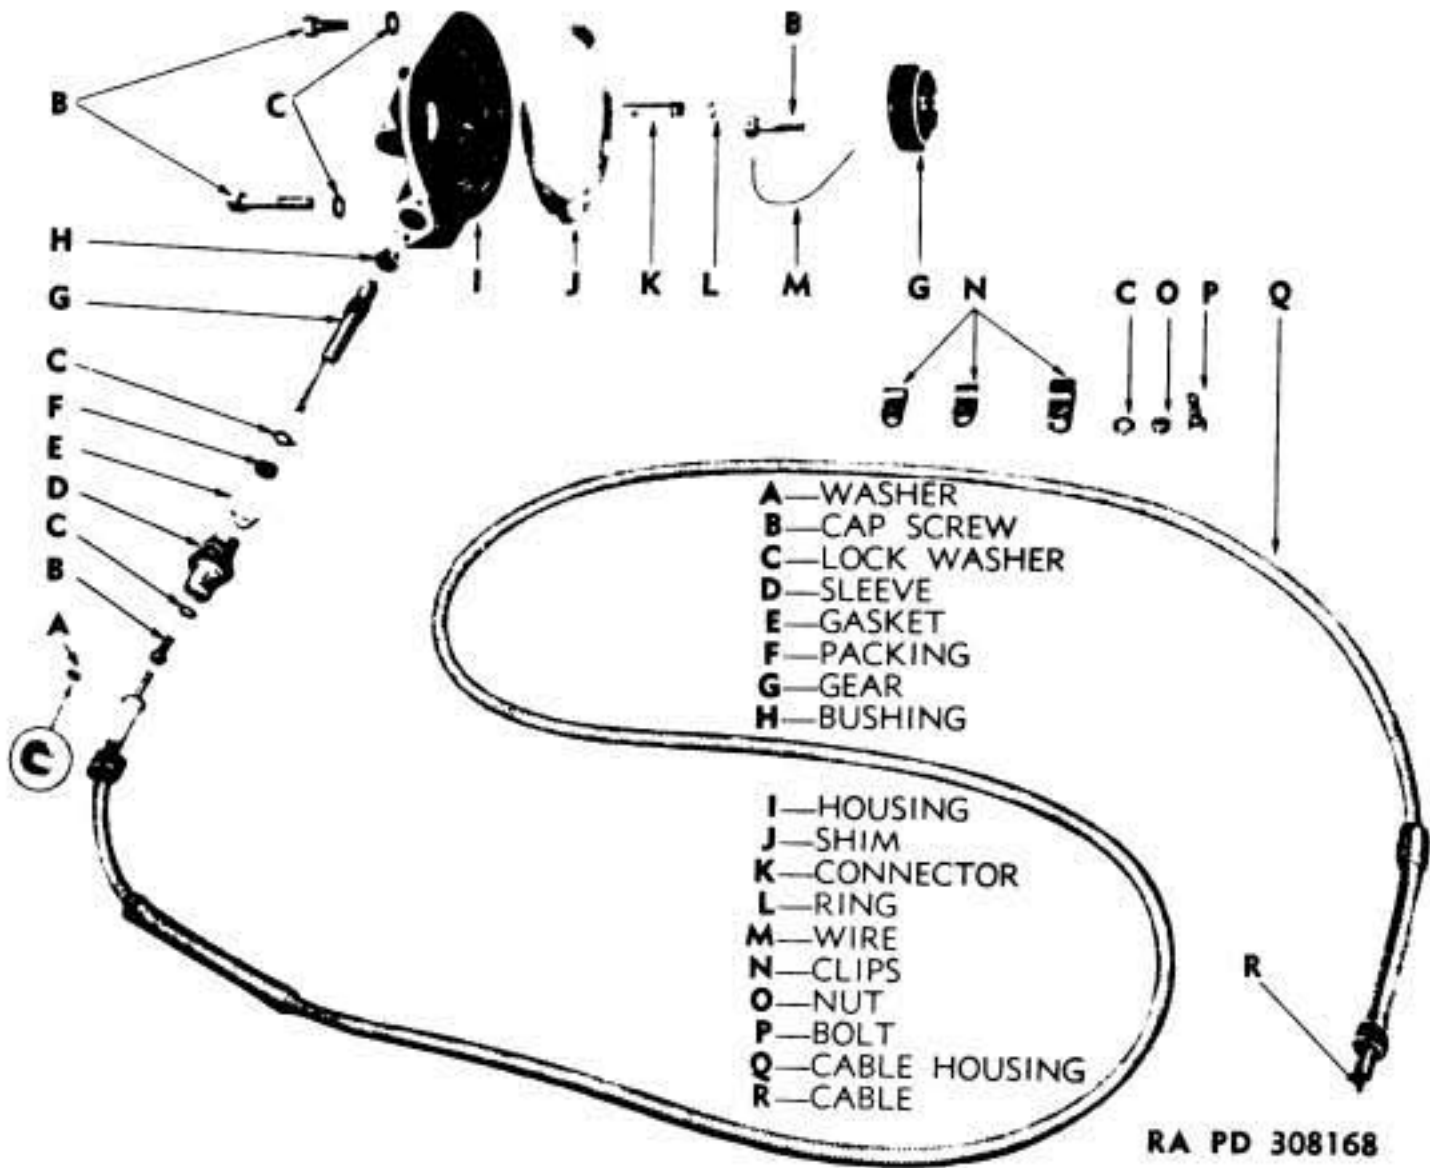

Figure 66 — Speedometer Drive Assembly Disassembled
b. Install Speedometer Drive Assembly. A small oil piping connector is pressed into the speedometer drive housing and has a small sealing ring similar to a piston ring in a groove towards inner end of shaft (fig. 66). When drive assembly is installed, the end of connector and sealing ring enters the bore of speedometer drive gear. The sealing ring must have a gap of 0.002 to 0.003 inch and fit freely in groove, and shaft must slip freely into gear to prevent gear from freezing to shaft during operation. Attach housing to transmission case with six cap screws with lock washers (fig. 17).
a. **Assembly** (fig. 66). Press new bushing for shorter end of speedometer drive shaft into housing, also press oil piping connector into center of housing with end of connector flush with outer side of housing. Slip drive gear onto other end of connector over sealing ring to check for 0.002- to 0.003-inch gap in sealing ring. Insert shorter end of driven gear shaft into bushing installed in housing. Install new packing and washer in drive sleeve, slip new sleeve gasket over lower end of sleeve, then install sleeve over driven gear shaft and into housing. Attach with two cap screws and lock washers. Lubricate flexible shaft, insert shaft through flexible housing, and slip retaining washer or washers on ends of shaft.